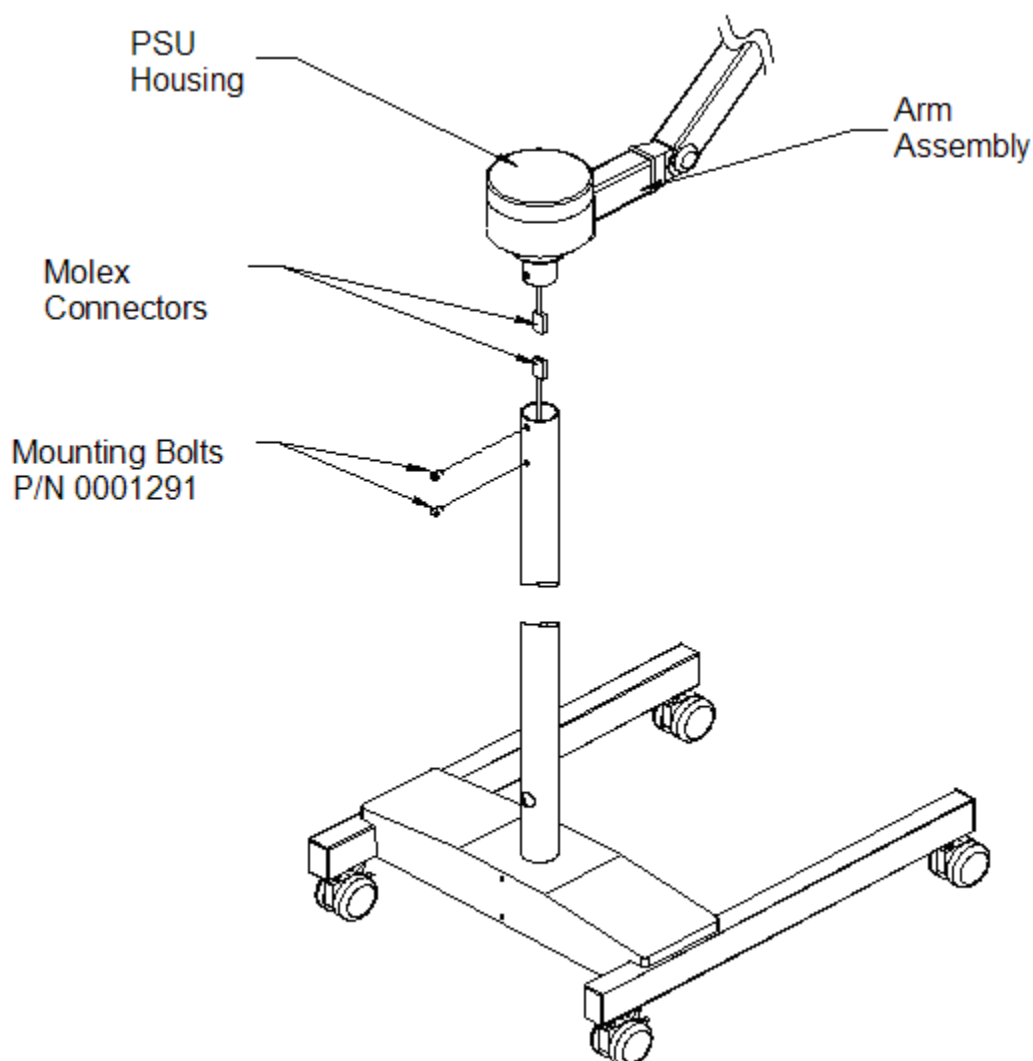

Figure 18. Arm Assembly to Upright Pole Installation
- The light arm should be between the extended legs as shown in Figure 18. Arm Assembly to Upright Pole Installation.